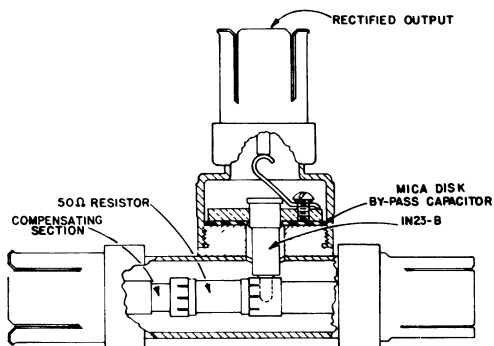

Figure 1. Interior detail of Type 874-VR.
1.1 PURPOSE. The Type 874-VR/-VRL Voltmeter Rectifier (Figure 1) is primarily designed to operate as a voltage monitor in a 50-ohm coaxial system. With a suitable indicator, it will monitor the voltage behind a 50-ohm resistor and will thus serve as a very useful "building block" in measuring systems.